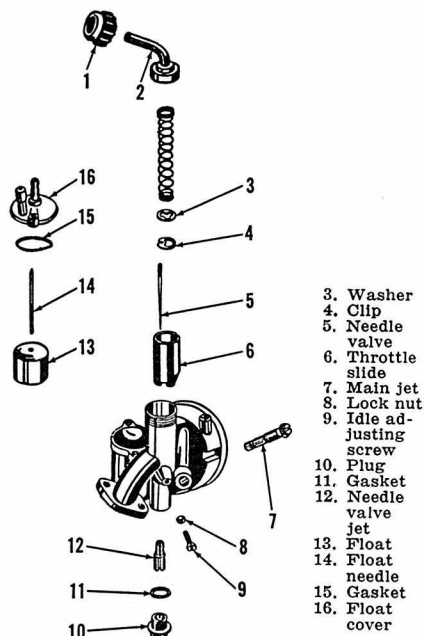

Fig. A1-1—Exploded view of Bing 1/12 carburetor.
**CARBURETOR.** Mo-Ped 50 models use a Bing 1/12 carburetor shown in Fig. A1-1. Main jet (7) is usually size 62; however, for better fuel economy, size 60 main jet may be installed. Needle valve clip (4) should be installed in second groove from top of needle (5). Make certain washer (3) is installed. Idle speed screw (9) should be locked by nut (8).